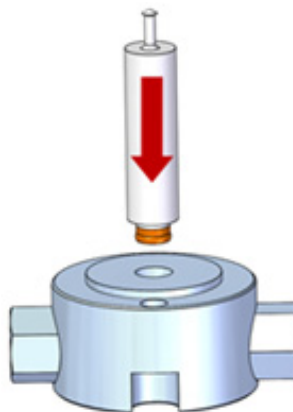

Figure 5-14 Replacing the seal
13. Place a replacement seal on the rod-shaped end of the seal insertion/removal tool so that the spring (energizer) is visible when the seal is fully seated on the tool. Insert the tool into the pump head (Figure 5-14).